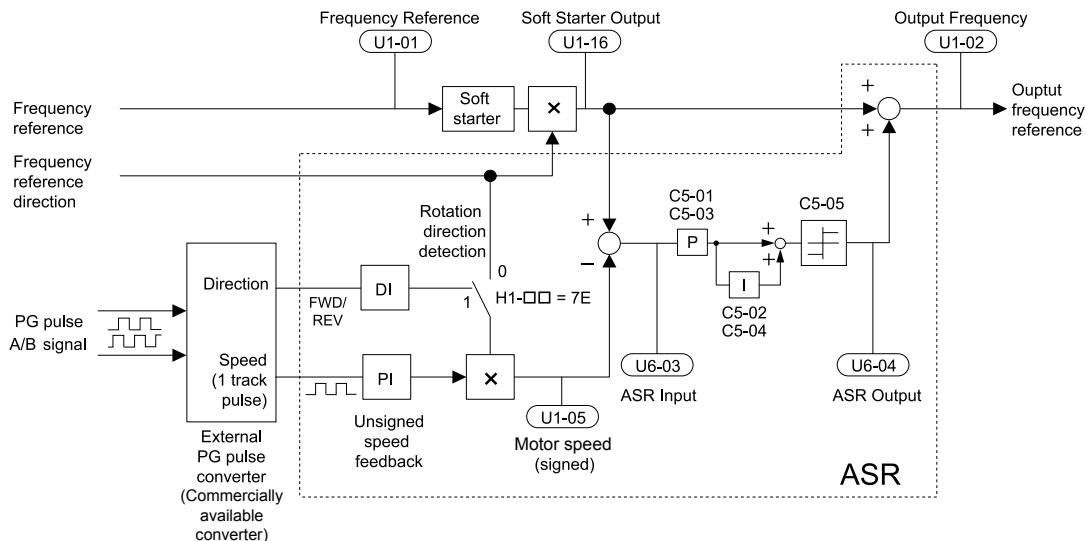

Figure 5.30 Speed Control with ASR in V/f with Simple Speed Feedback
**Figure 5.30** illustrates the ASR function when using V/f with Simple Speed Feedback.